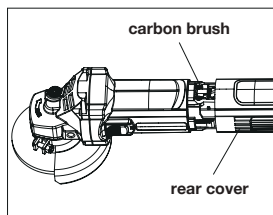

Fig6
2. Both carbon brushes should be replaced at the same time. Use only brushes provided. Pull down the rear cover after the screw in the rear cover was loosen by a screwdriver, then replace the brush (Fig6).